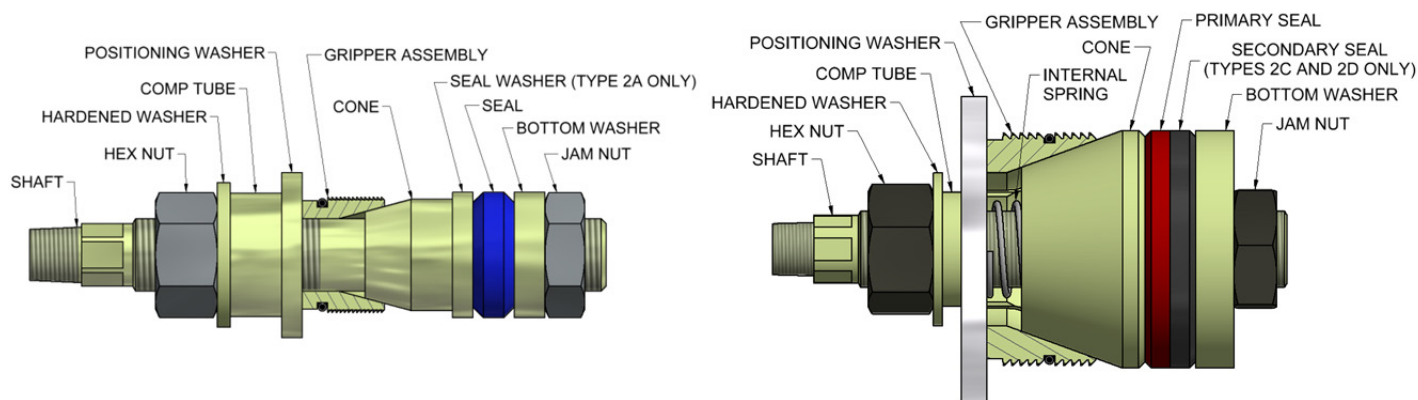

Figure 2: Type 2A/B (left) and Type 2C/D (right) GripTight MAX Test Plugs
- Type 2C and 2D GTMAX Plugs have two (2) Seals, a Primary Seal and a Secondary Seal. The Seals must be placed on the GTMAX Plug in the correct configuration: Secondary Seal against the Bottom Washer, Primary Seal against the Cone. The chamfered edges should face away from each other, towards the Bottom Washer and Cone respectively. See Figure 2 for reference.